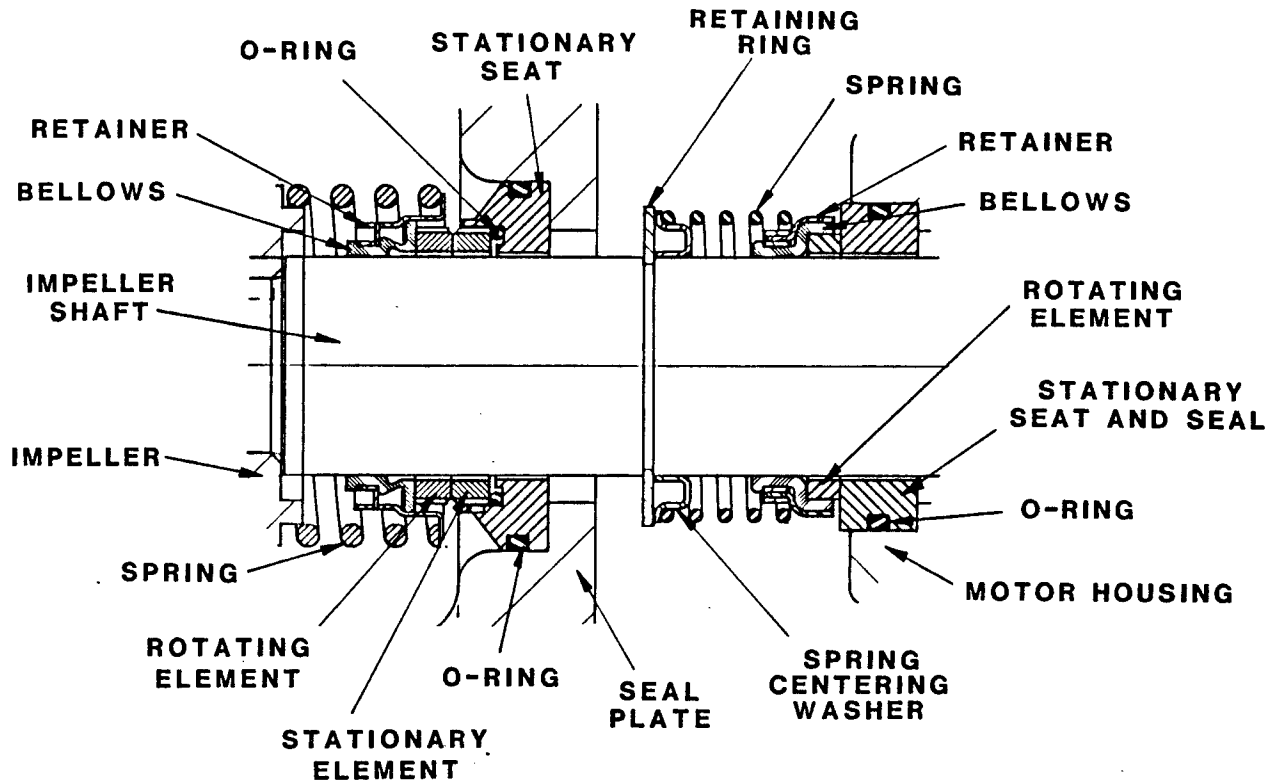

Figure 3. Seal Assemblies 46512-076 and 25284-951
Install the shaft seals as illustrated in Figure 3.
Slide the seal spring over the shaft and bellows retainer, and install the spring retainer. Install the seal retaining ring (18). See Figure 3 for proper order of seal assembly.
Unpack the stationary seat, and check that the O-rings are properly installed (see Figure 3). Press the stationary element into the seat, making sure that the grooves in the element engage the lugs on the seat. Apply a light coating of oil to the seal plate bore and the outer O-ring.
Slide the seal spring over the shaft and bellows retainer. See Figure 3 for proper order of seal assembly.